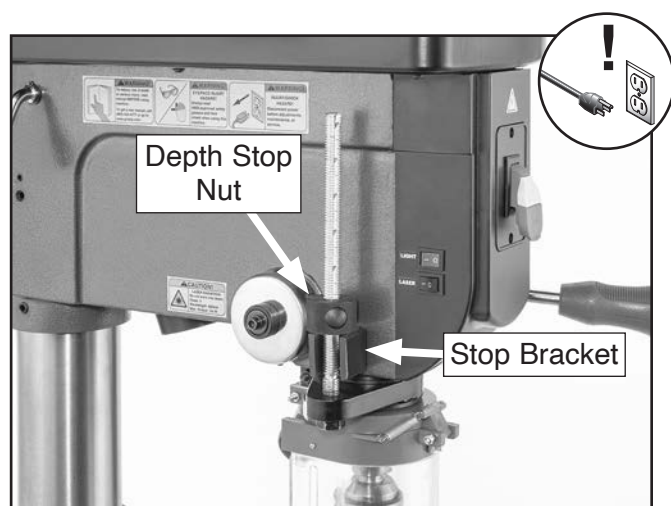

Figure 60. Depth stop nut adjusted all the way down.
2. Adjust depth stop nut all the way down so it sits against stop bracket (see **Figure 60**).